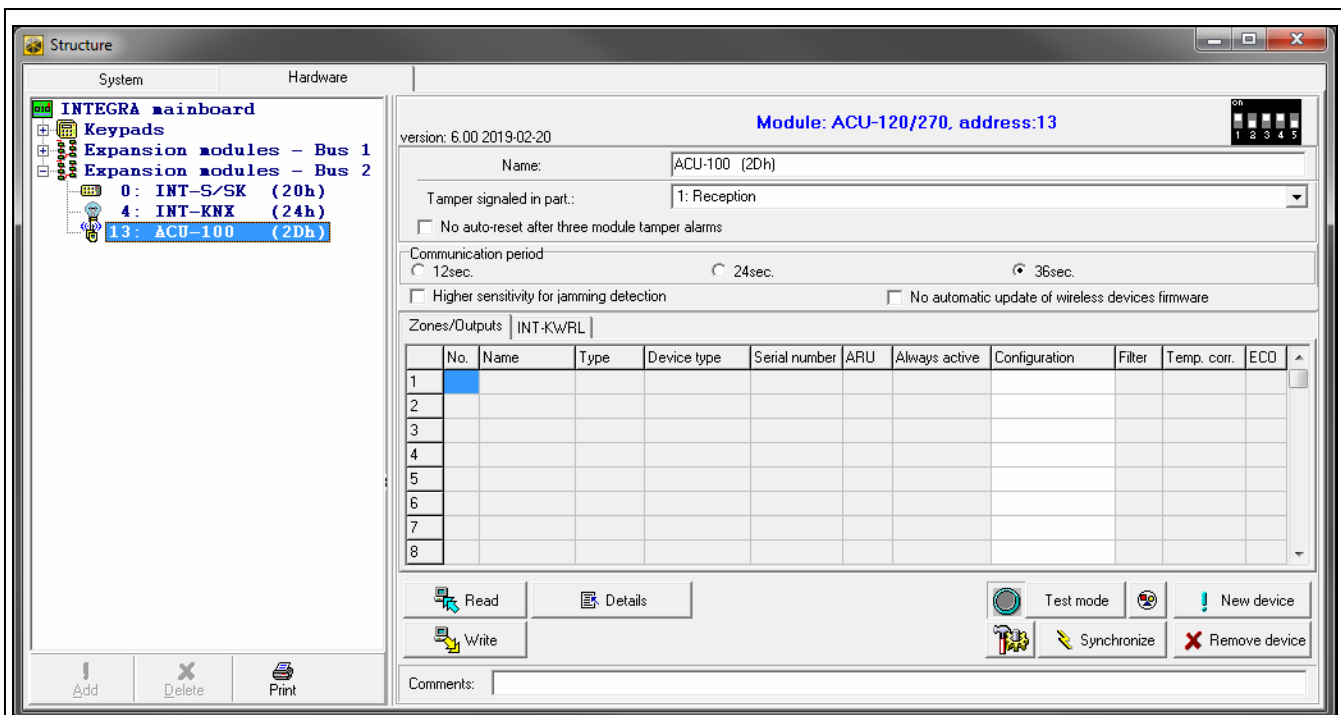

Fig. 20. DLOADX program: parameters and options of the controller connected to INTEGRA / INTEGRA Plus control panel.
- DLOADX program: “Structure” window → “Hardware” tab → “Expansion modules” branch → *[controller name]* (Fig. 20).